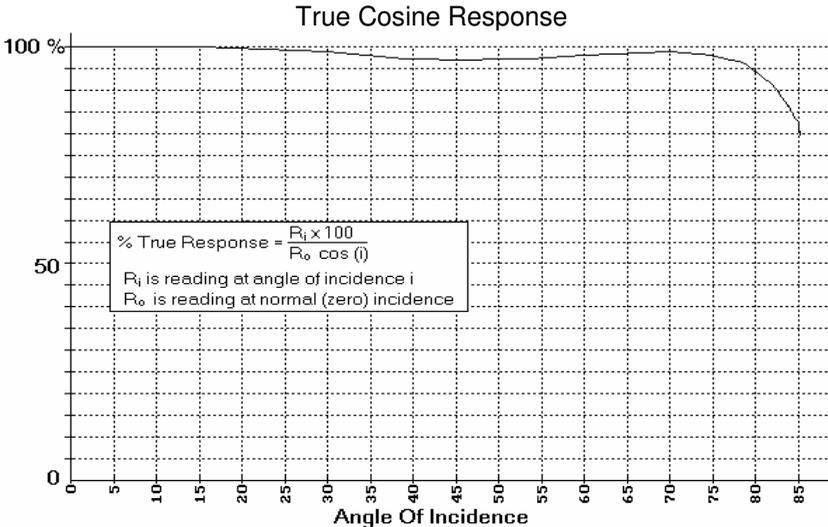

Figure 6
- Angular Response: Accurately cosine corrected to Lambert's Cosine Law. Maximum error is less than $\pm 3.5\%$ from true response to 70° from normal incidence, reference Figure 6.
Angular Response: Accurately cosine corrected to Lambert's Cosine Law. Maximum error is less than $\pm 3.5\%$ from true response to 70° from normal incidence, reference Figure 6.